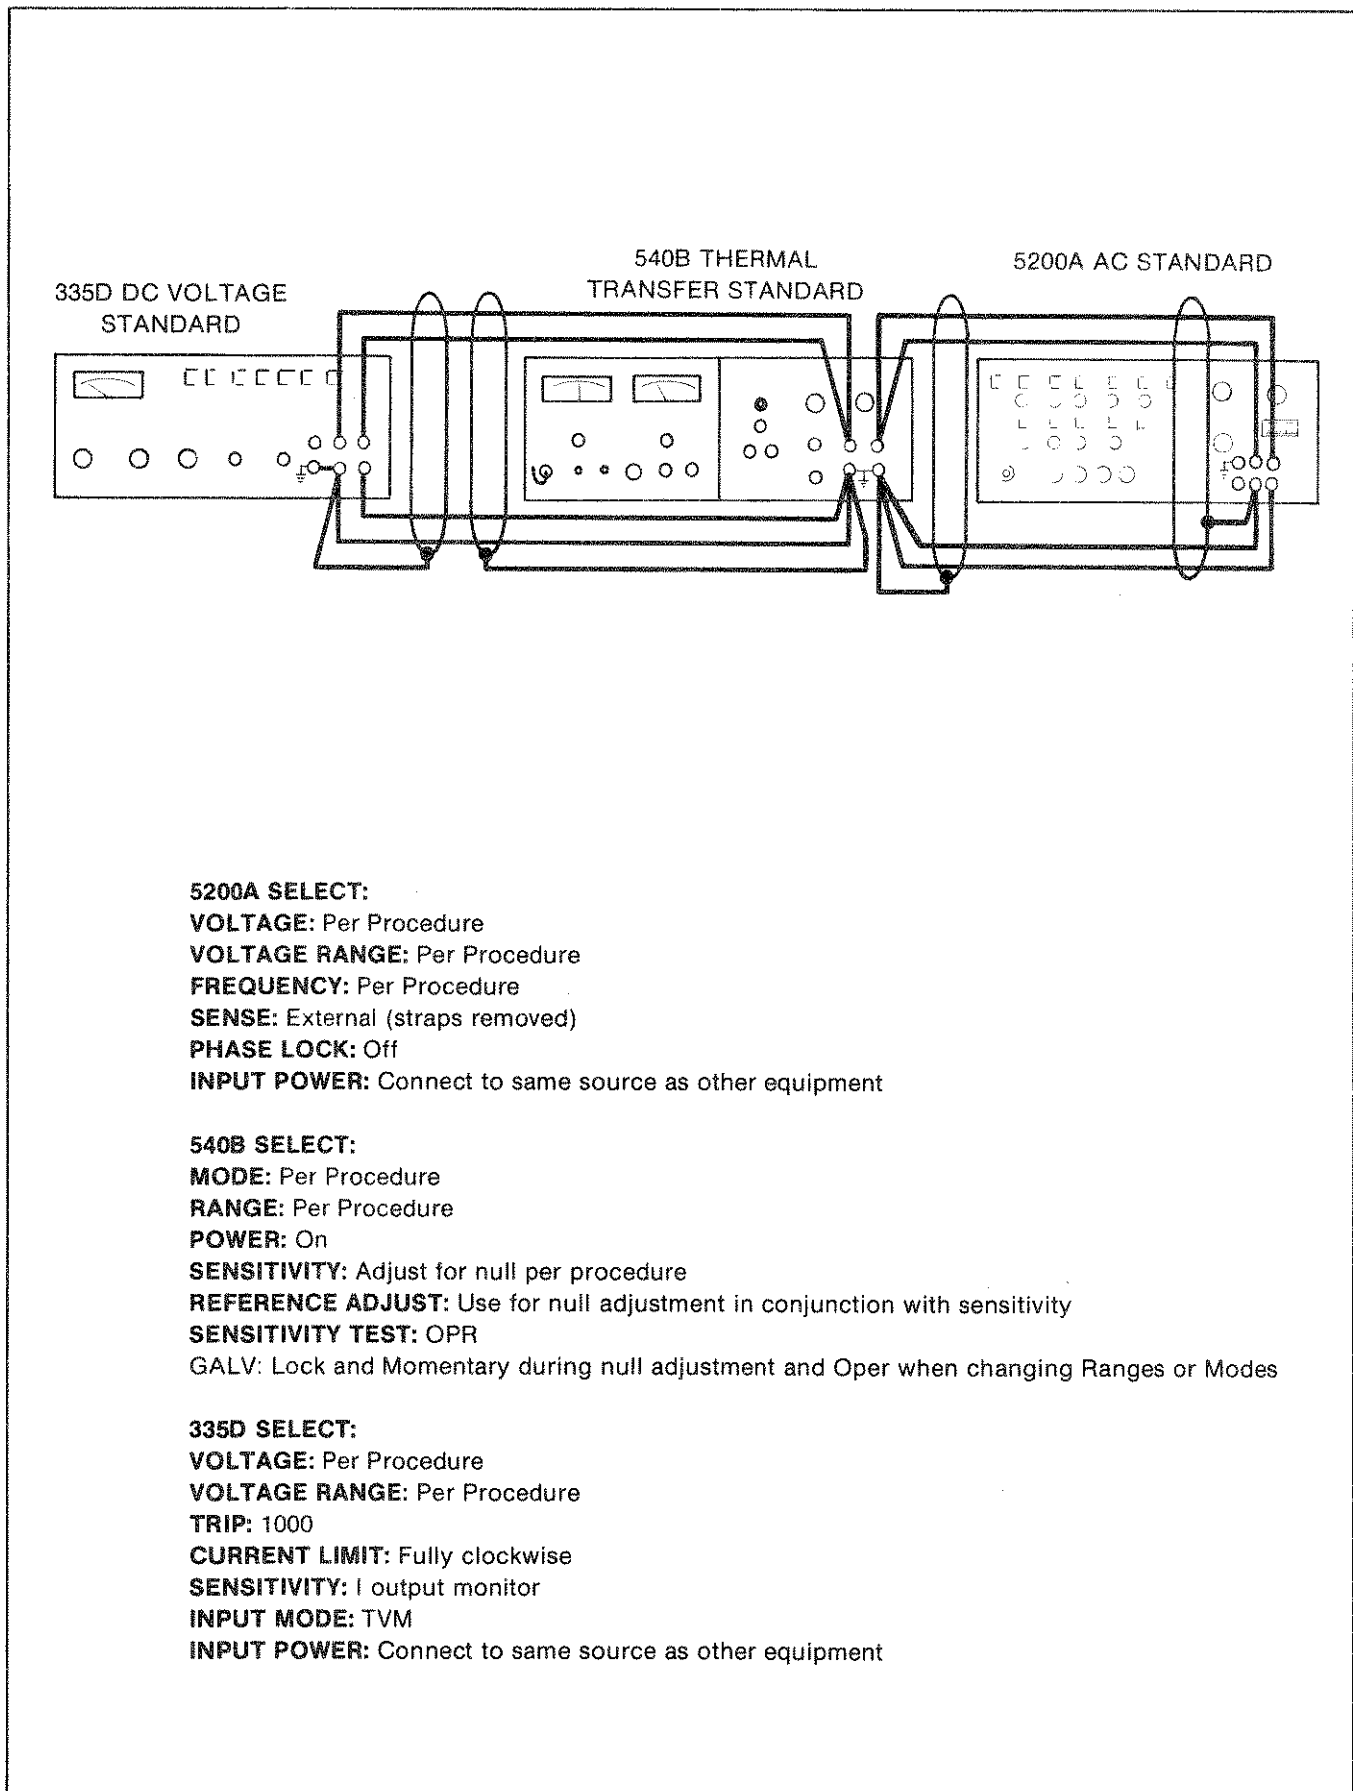

Figure 4-5. Equipment Set-Up A
1. Connect the 5200A, 335D, and the 540B for DC to AC Transfer Measurements as shown in Figure 4-5.